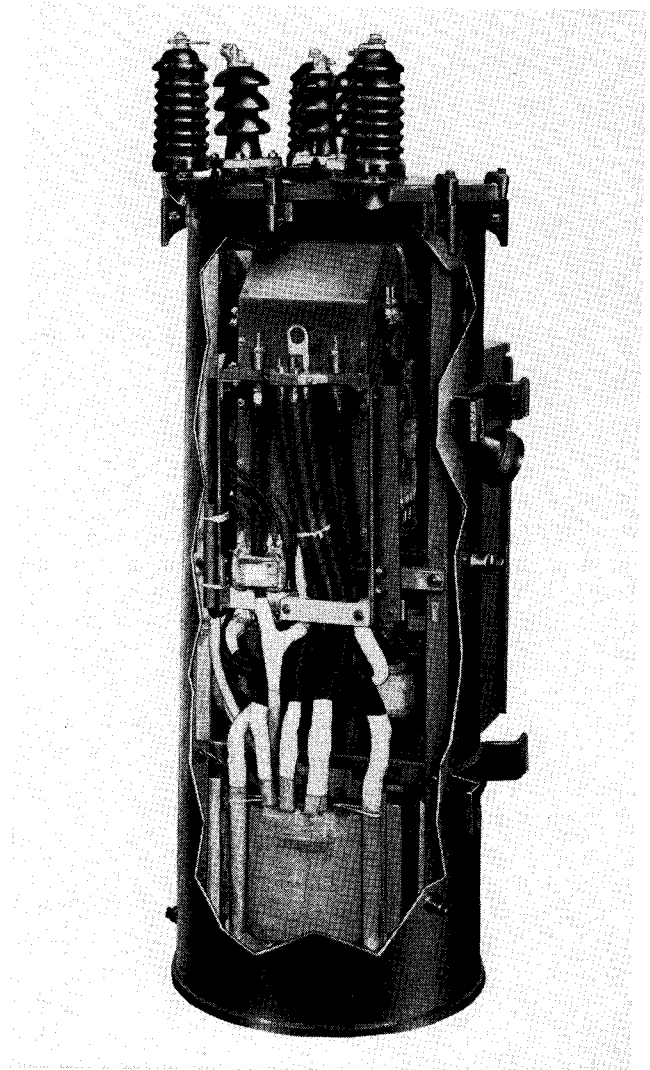
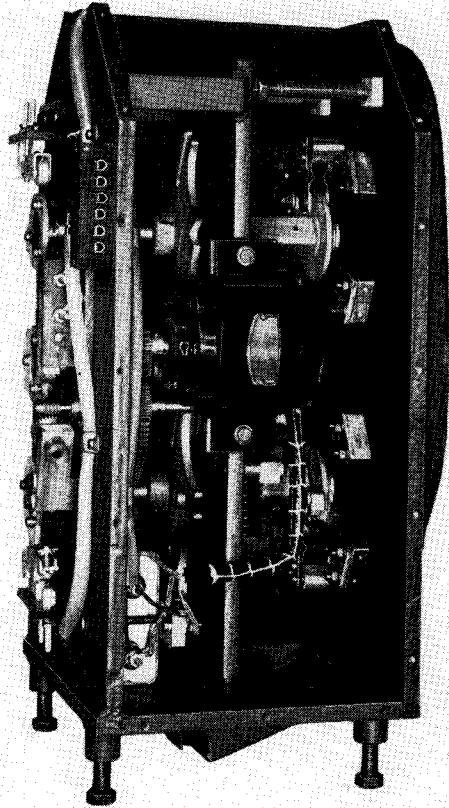
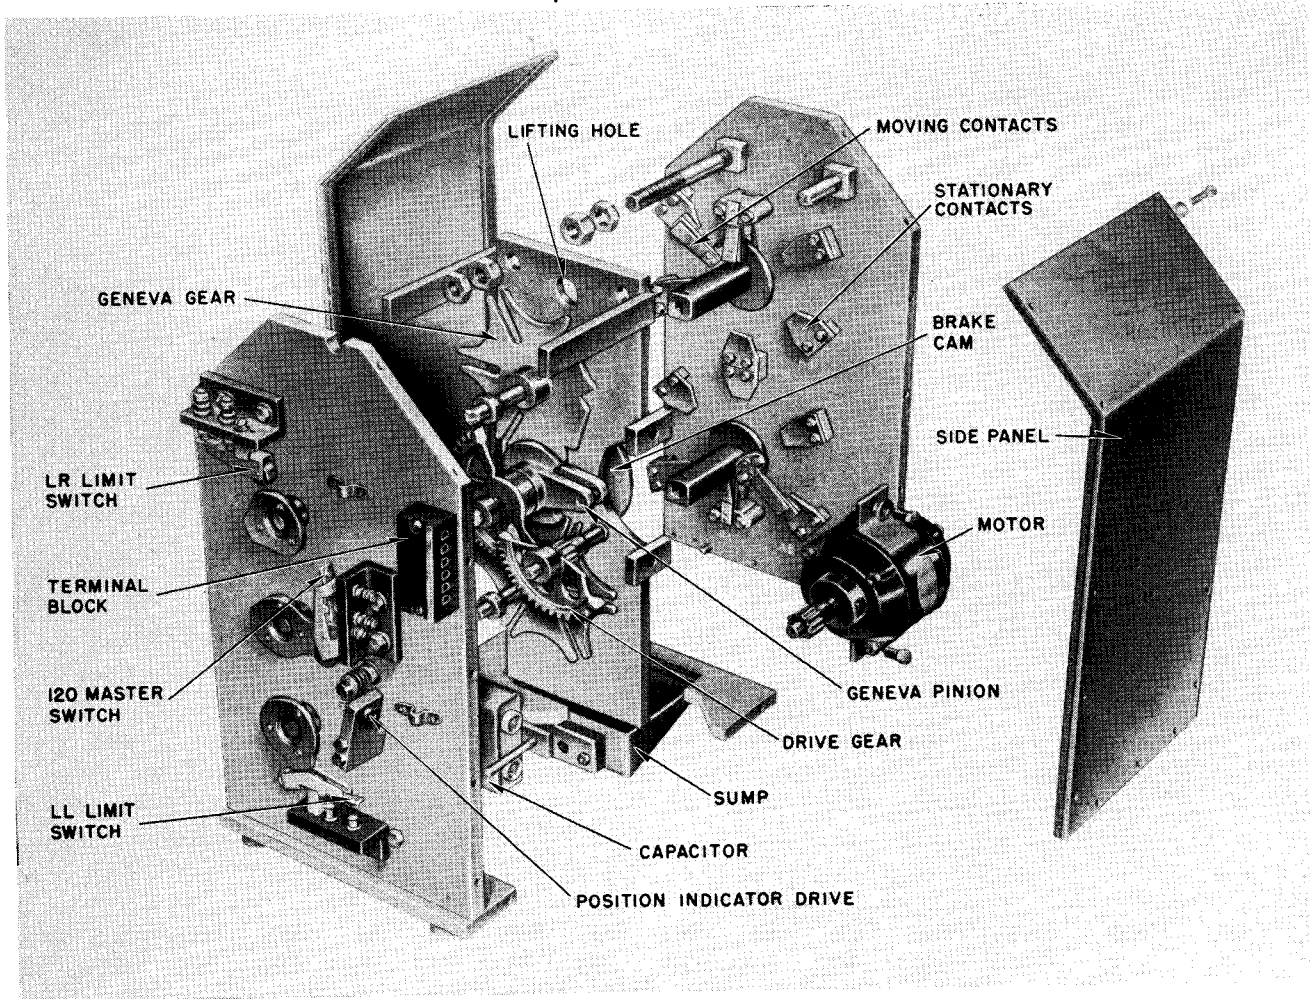

FIG. 1. Cutaway View of URL-8 Regulator.
FIG. 3. URL-8 Load Tap Changer Mechanism.
FIG. 5. Exploded View of URL-8 Tap Changer.
**Load Tap Changer Mechanism.** The Type URL-8 Under-Load Tap Changer (see Figs. 3 and 4) is a quick break, geneva-gear mechanism with direct connection to the driving motor. The mechanism, completely enclosed to prevent any free interchange of tap changer oil with the transformer oil, is bolted securely to braces connecting the vertical upright. A sump arrangement at the bottom of the tap changer compartment, along with a drain pipe through the outside tank wall, allows the tap changer compartment alone to be drained. (See cutaway Fig. 1, Fig. 3, and exploded view Fig. 5.)